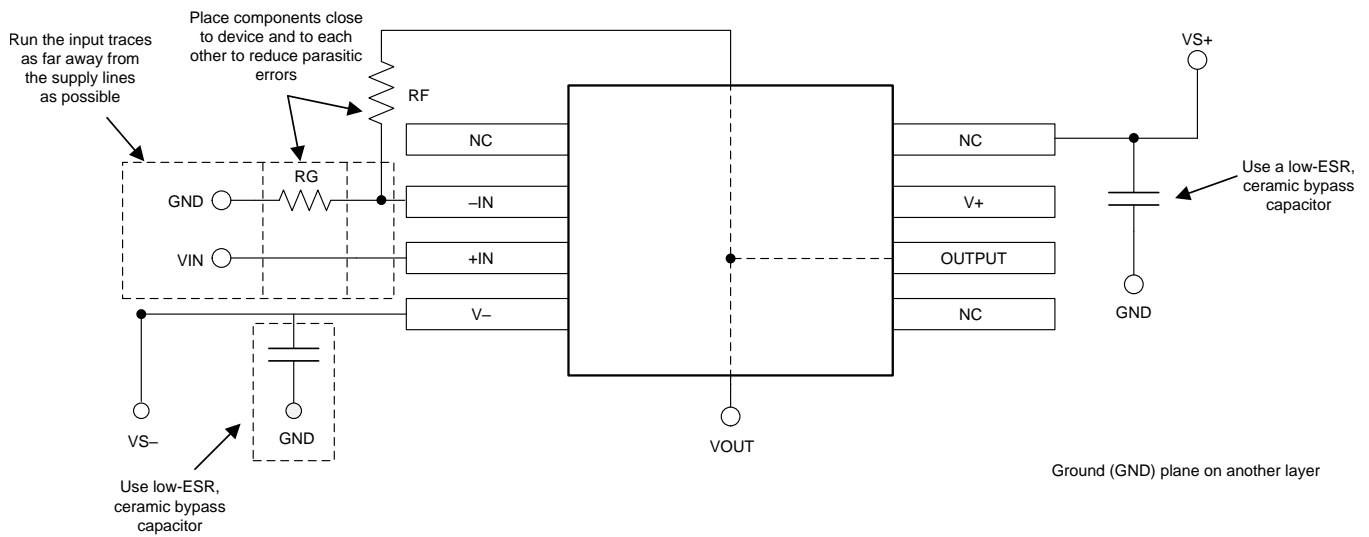

FIG 34. Op Amp Board Layout for a Noninverting Configuration
- Place the external components as close to the device as possible. As illustrated in Figure 34, keeping R_F and R_G close to the inverting input minimizes parasitic capacitance.